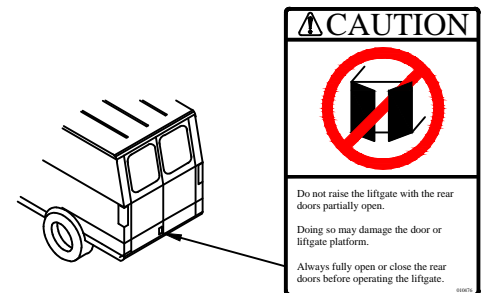

Figure 21: Caution decal location.
8. **Drill** two (2) 13/64" holes in the platform, using the holes in the aluminum cover as a guide.
9. **Install** two (2) 1/4-20 self-tapping screws in the drilled holes.
10. **Install** the lower aluminum cover using four (4) 1/4-20 self-tapping screws.
12. **Secure** the limit switch wire to the support arm and limit switch bracket using two (2) plastic zip ties. This should be done with the platform unfolded.
13. **Adhere** decal (PN 10476) to the exterior bottom right corner of the driver side rear door (Figure 21).